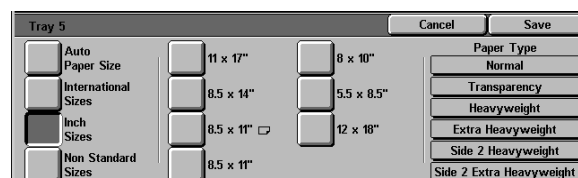

Figure 28: Tray 5 Inch Sizes
- Touch **Inch Sizes** and select one of the standard US sizes, such as 8.5 x 11 or 11 x 17 inches, as shown in Figure 28.